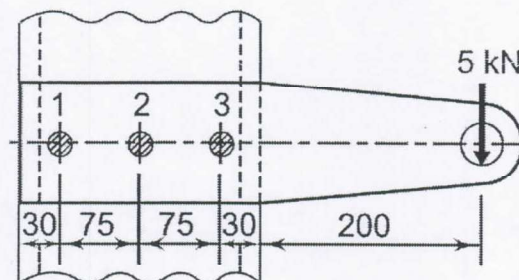

Figure 3: A Bolted connection
- 12 (b) A steel plate subjected to a force of 5 kN and fixed to a channel by means of three identical bolts is shown in Fig. 3. The bolts are made from plain carbon steel 45C8 ( $S_{yt} = 380 \text{ N/mm}^2$ ) and the factor of safety is 3. Specify the size of bolts.